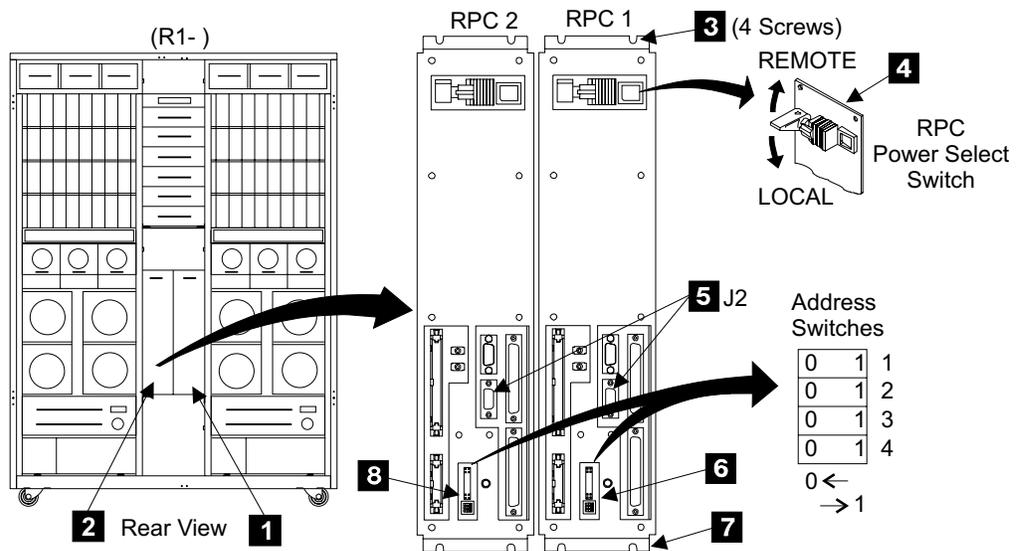

Figure 79. Rack Power Control Card Connectors (S007679m)
2. Open the rear cover of the 2105 Model Exx/Fxx. Set the local/remote switches on both RPC cards to the local position, **4** in Figure 79 on page 72.